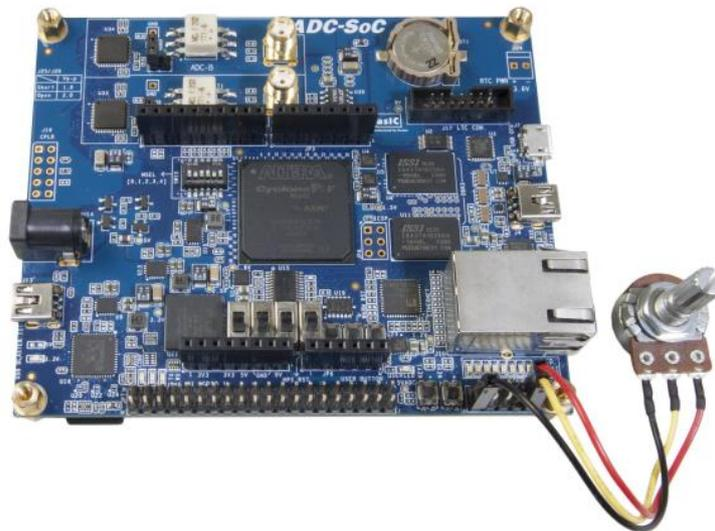

Figure 4-4 Hardware setup for the ADC reading demonstration
- Connect the trimmer to corresponding ADC channel on the 2x5 header, as shown in **Figure 4-4**, as well as the +5V and GND signals. The setup shown above is connected to ADC channel 0.